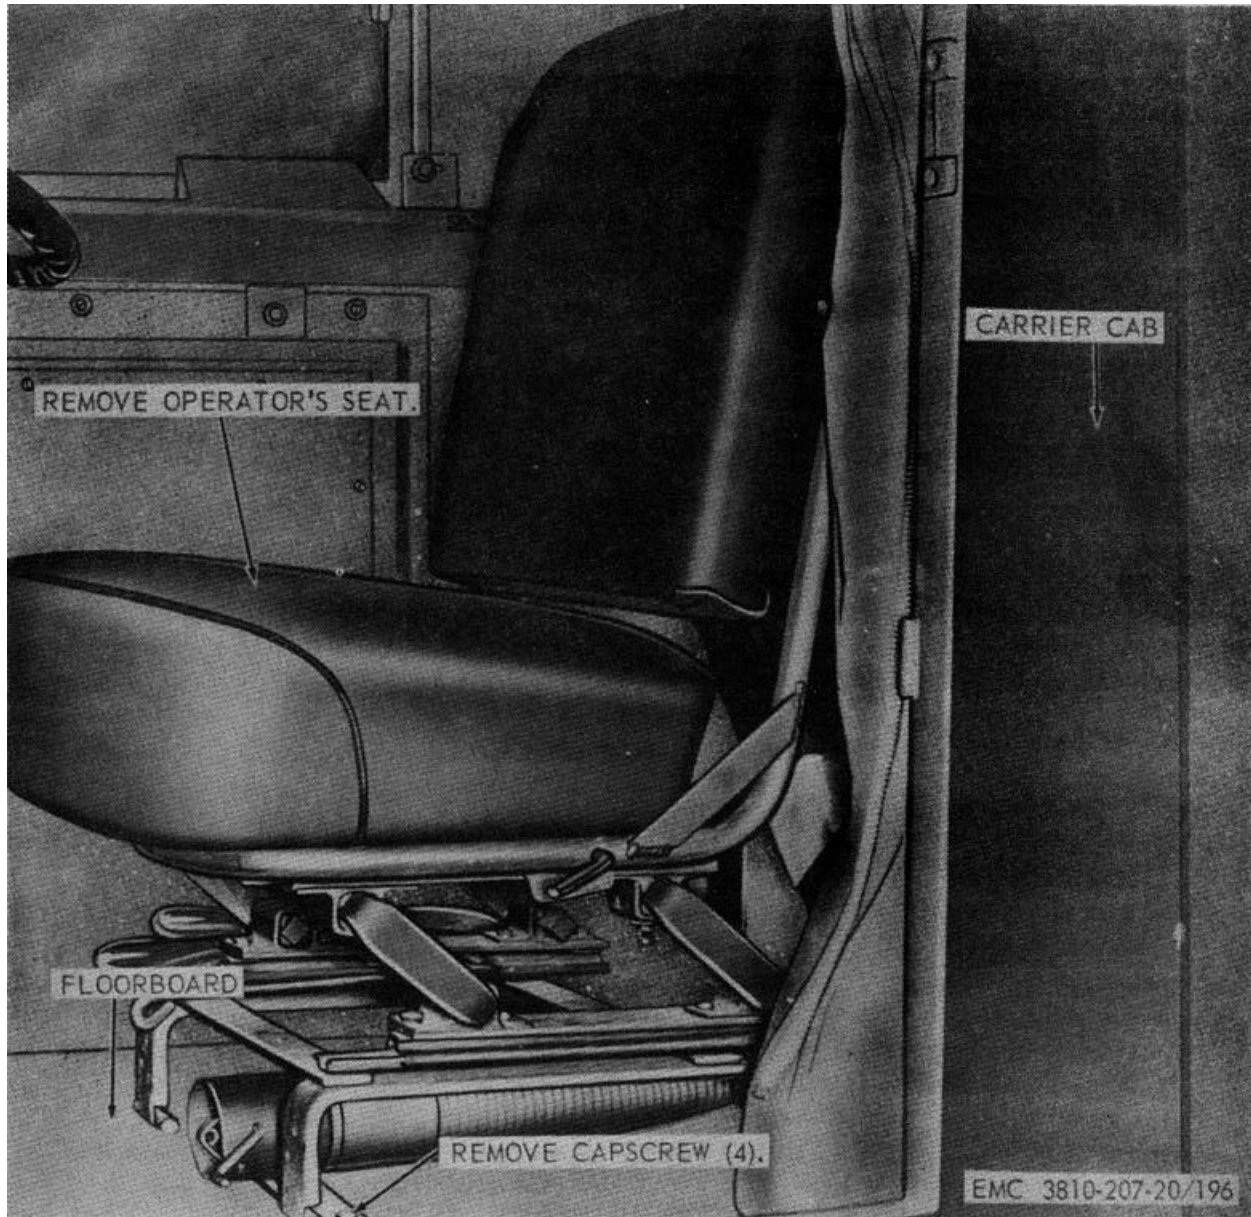

Figure 196. Operator's seat, removal and installation
a. Removal. Remove the operator's seat from the cab as instructed on figure 196.
e. Installation. Install the operator's seat as illustrated on figure 196.